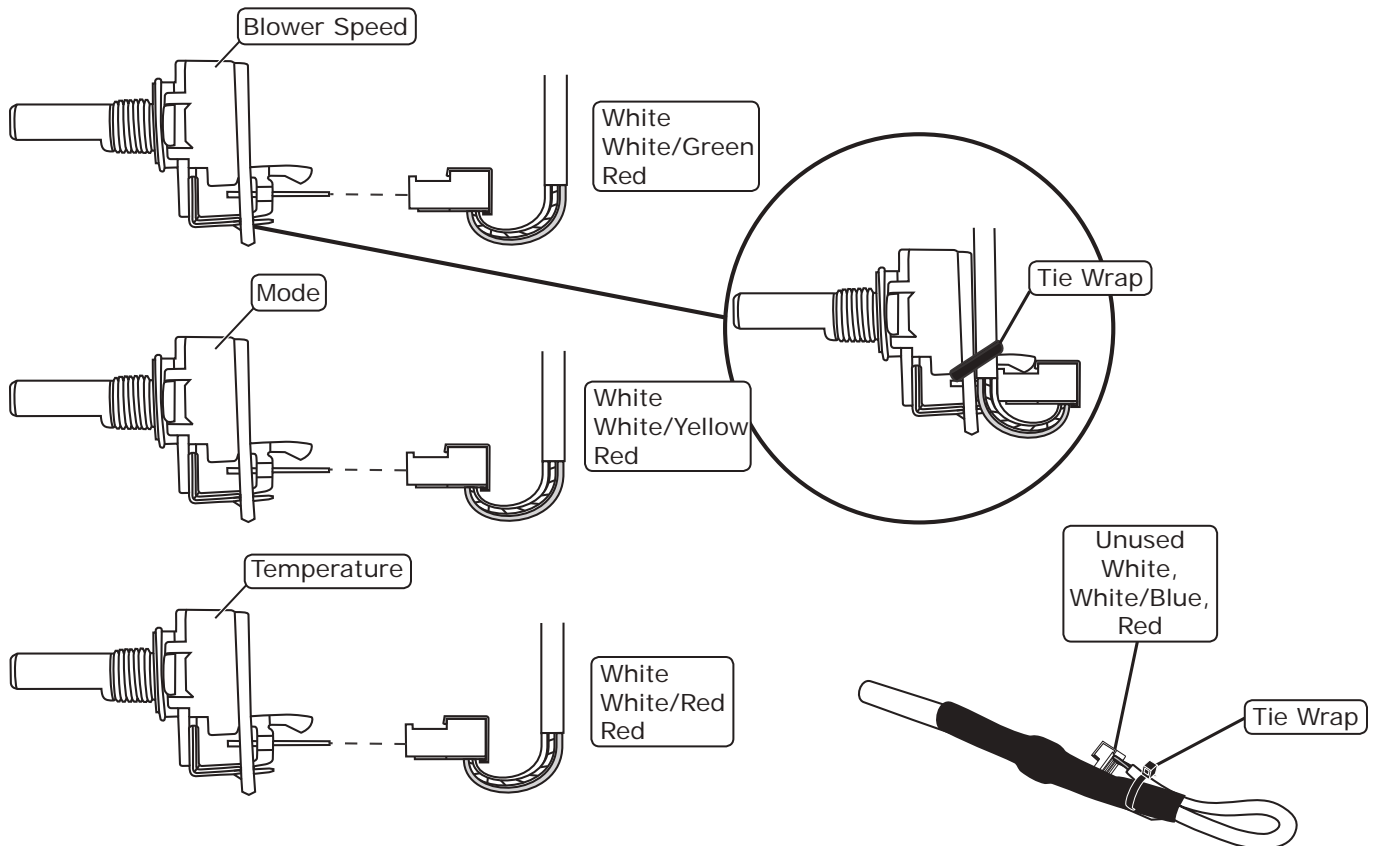

Figure 1
4. Locate the (3) rotary pot assemblies, and remove a washer and nut from each one (discard) (See Photo 27, below).
5. Install the wiring harness onto the rotary pots as shown in Figure 1, below.
6. Secure the wiring to the rotary pots using the tie wraps provided (See Figure 1, below).